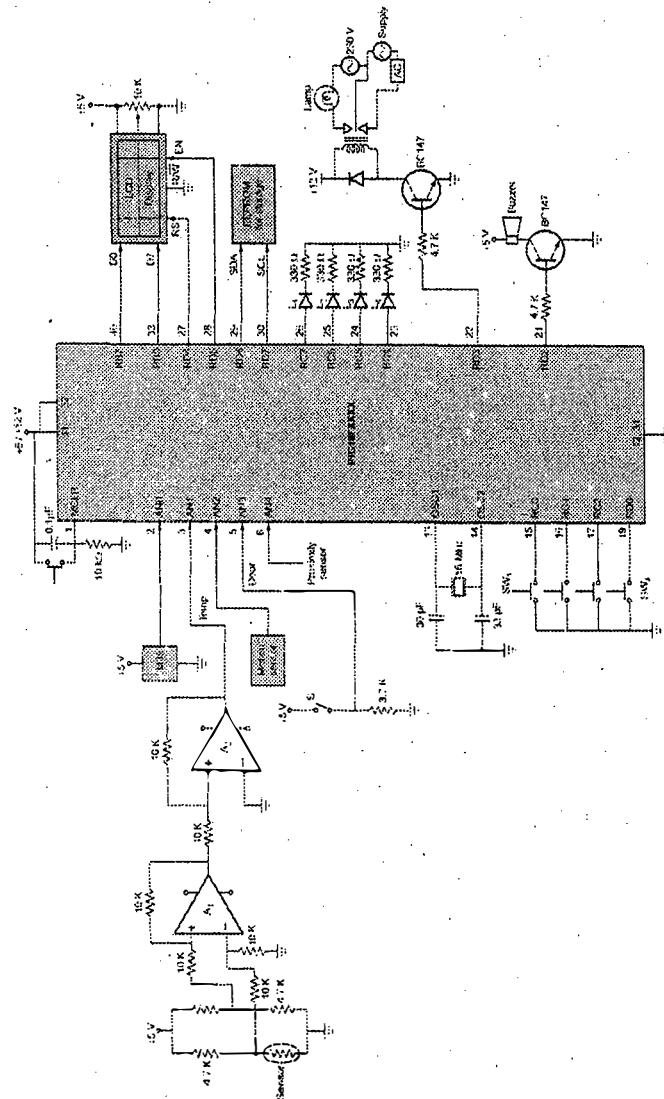

Fig. Q.14.5 Complete schematic for home protection system
**Complete schematic :** The complete schematic diagram is shown in Fig Q.14.5